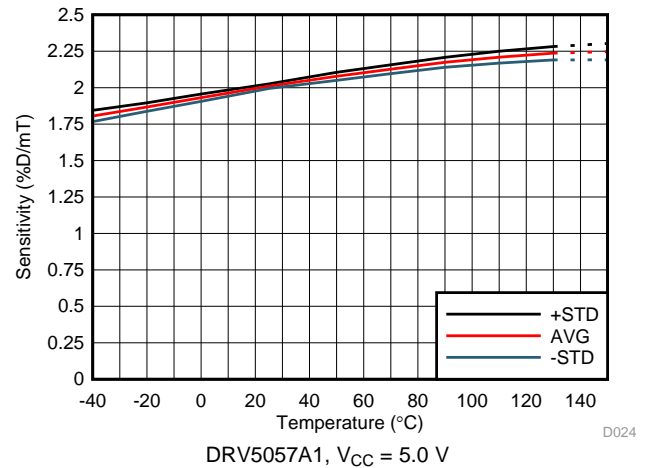

图 4. Sensitivity vs Temperature
(1) B is the applied magnetic flux density.
(2) See the section.
(4) See the Sensitivity Linearity section.
(5)  $S_{TC}$  describes the rate the device increases Sensitivity with temperature. For more information, see the Sensitivity Temperature Compensation for Magnets section and 图 4 to 图 11.